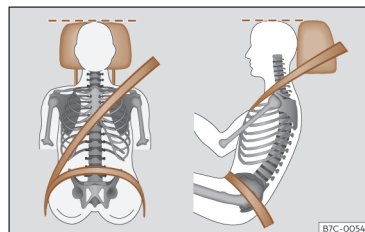

Fig. 15 Correct belt web and headrest positions
your head and under no circumstances below eye level¹⁾. Keep the back of your neck as close as possible to the headrest >>> **Fig. 15.**
- Adjust the seat lengthwise so that you can fully step on the pedals with your knees slightly bent and there is a distance between the knee area and the instrument panel of at least 10 cm (4 inches) >>> **Fig. 15.**